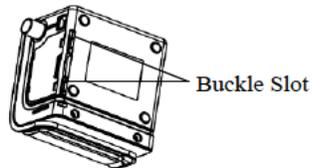

Fig. 4-1
- (1) Overturn the main device and find the buckle slot at the bottom of the main device, as shown in Fig.4-1.
- (2) Remove the shield by inserting a flat tool into the buckle slot.